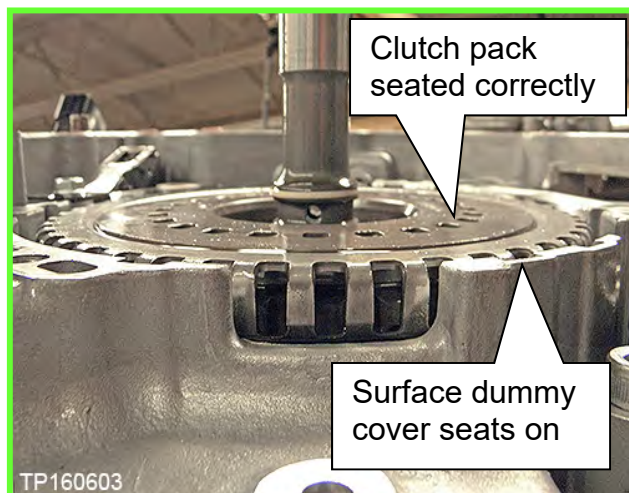

Figure 65
- Figure 65 shows the clutch pack fully seated.